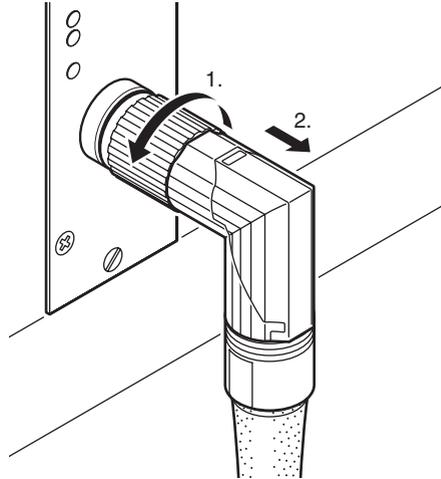

Abb. 22: Loosening the connecting cable from the tightening system
2. Loosen the angle plug of the connecting cable according to fig. 22 on page 170 from the XDS2 interface at the Rexroth tightening system and pull out the connecting cable.